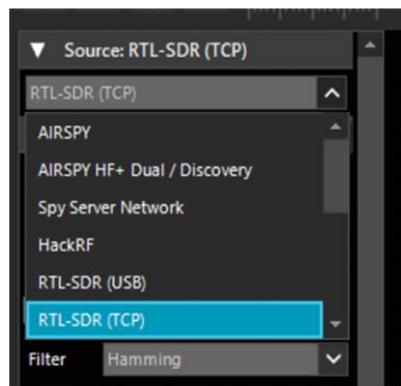

Figure 24.18: Select RTL-SDR (TCP).
- Start **SDR Sharp** on your laptop (assuming you have installed the **SDR Sharp** on your laptop) and select **RTL-SDR (TCP)** under **Sources** (Figure 24.18)